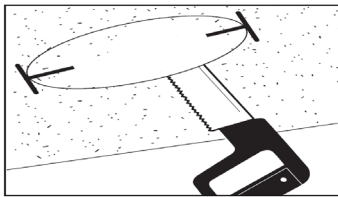

Figure 1
- If new hole is to be cut, use provided hole template. Place template over the desired location. Trace the outer ring with a pen or pencil (not included). Cut the opening with a saw (not included). (Figure 1)